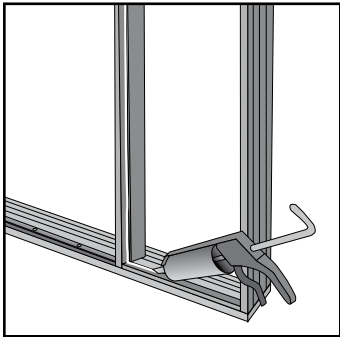

Fig. 16
- C2. For Custom Wood Doors:** To weatherproof sidelights, apply a bead of caulk along the inside rabbeted corner the entire length of the sidelight jamb leg, sidelight mull post, sidelight head jamb, and sidelight sill (**Fig. 16**).